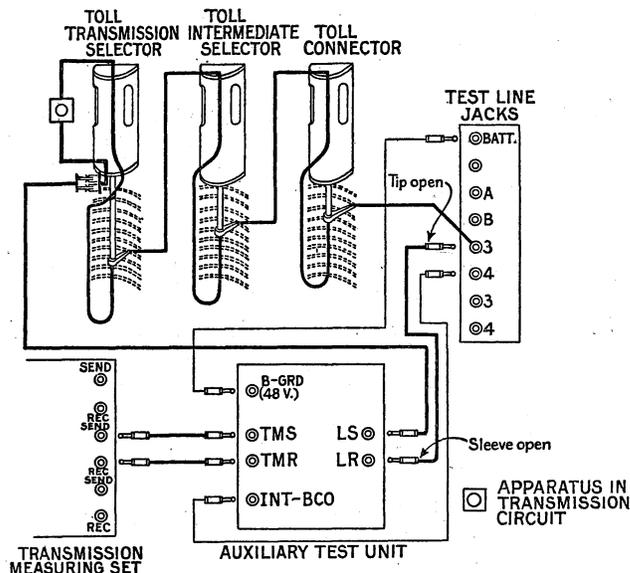

Figure 1
- 3.03 Figure 1 shows schematically the connections for the test.